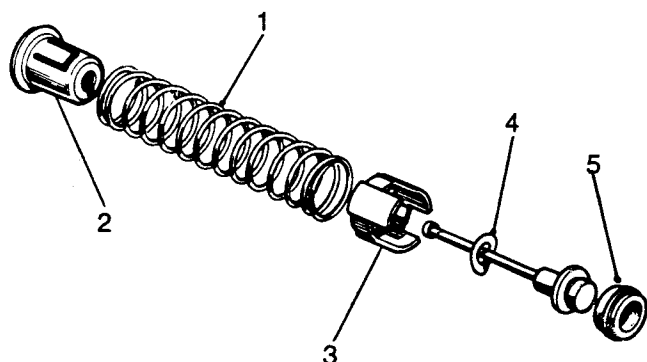

Fig H3.21
- (8) Refer to Fig H3.21. Withdraw the spring (1) and retainer (2).
- (9) Withdraw the valve spacer (3) and spring washer (4) from the valve stem.
- (10) Remove the valve seal (5).